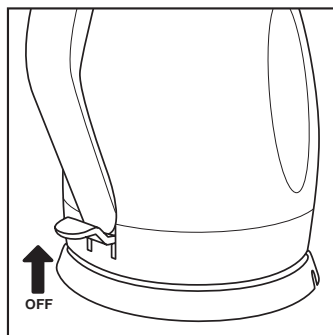

FIGURE 2
2. Raise the ON/OFF Lever into the OFF position. (See Figure 2).